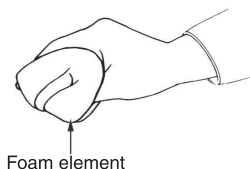

Fig. 2
3.3.3 If the core is dirty, clean it in the following way. (Figure 2)